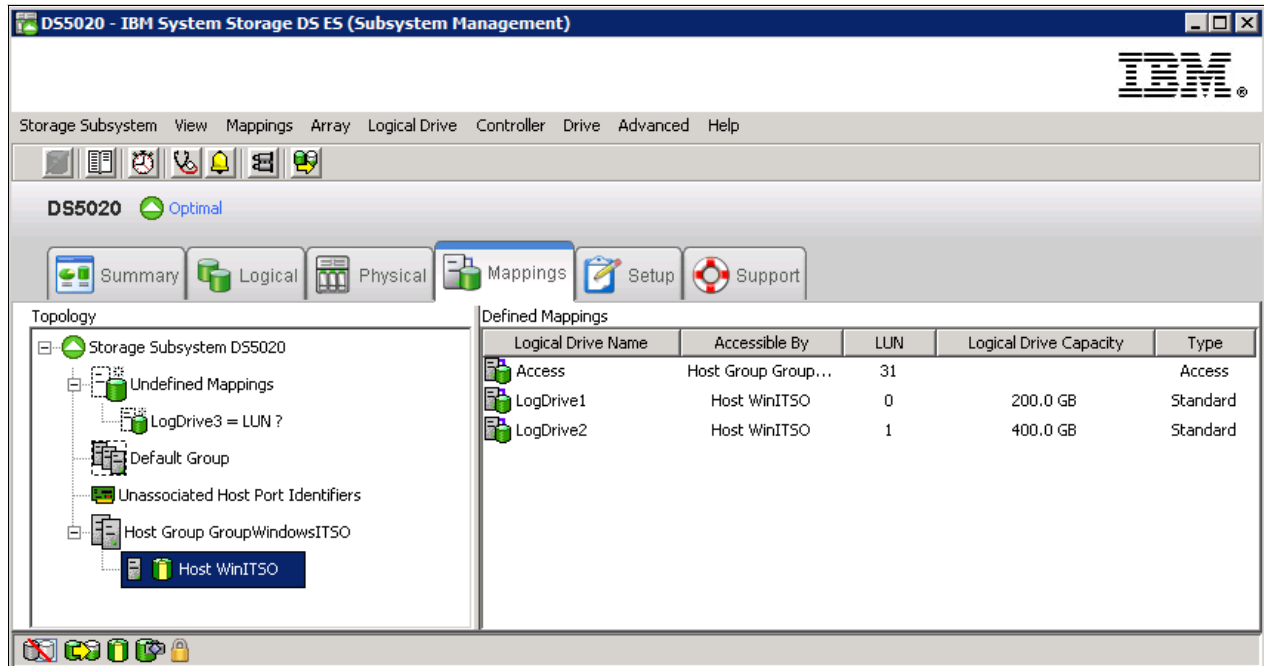

Figure 3-77 Displaying created mappings
5. Display your newly defined host groups, host, and mappings by selecting the **Mappings** view in the Subsystem management windows, as shown in Figure 3-77.